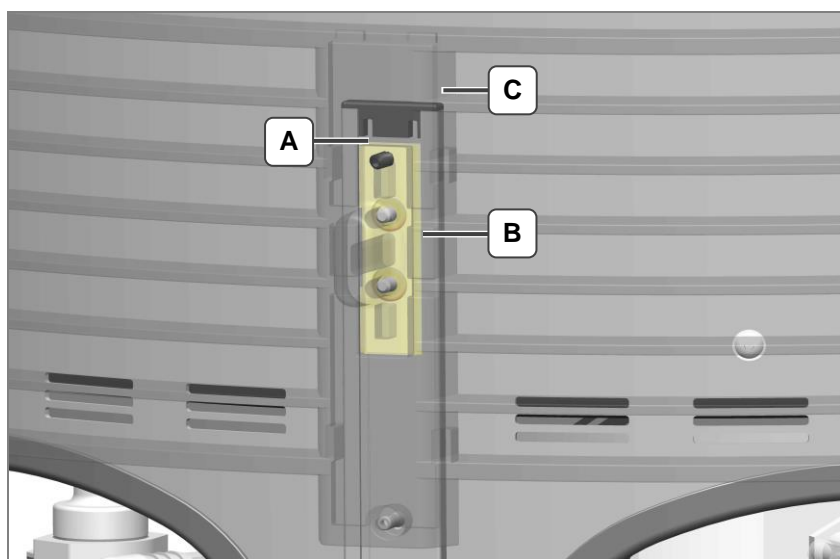

Fig. 4.2.1 Protective grilles guide mechanism
1. Remove the grub screws in each case (*Fig. 4.2.1.A*) at the top ends of the two guide rails.
2. Insert the two protective grilles with the carriage (*Fig. 4.2.1.B*) in each case from above into the guide rails.
4. Place the plastic cap (*Fig. 4.2.1.B*) on to the edge of the guiding rail.